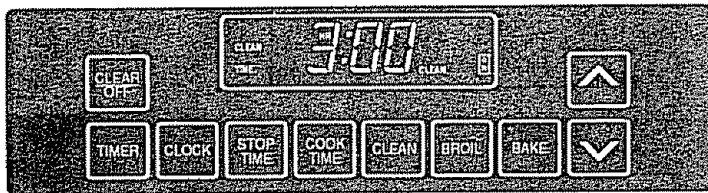

Fig. 2
2. Press  or  to set the desired length of clean time. **Clean time is normally 3 hours.** You can change it between 2 and 4 hours, depending on how dirty the oven is. See Fig. 2. The door locks automatically after the controls are set. The display will show "LOCK" when door locks.